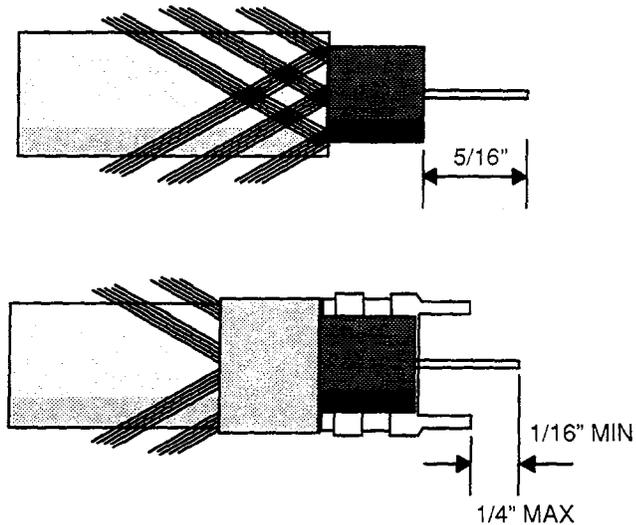

Figure 40 Trimming Dielectric and Installing Connector
- Step 2** As shown in Figure 40, cut through the exposed bonded foil and dielectric and remove without damaging center conductor.
- Step 3** As shown in Figure 40 above, insert the cable into the F-connector until dielectric is flush with inside shoulder of the connector. The center conductor should protrude about 1/8" beyond the connector shell.